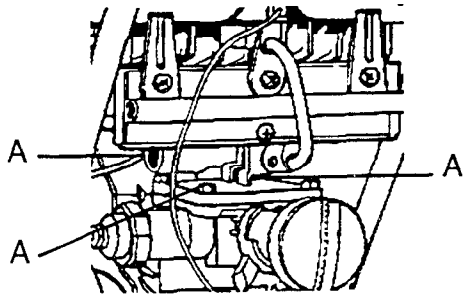

Fig.10
a) Remove the four screws (A) fastening the burner base to the gas section (see fig. 10).